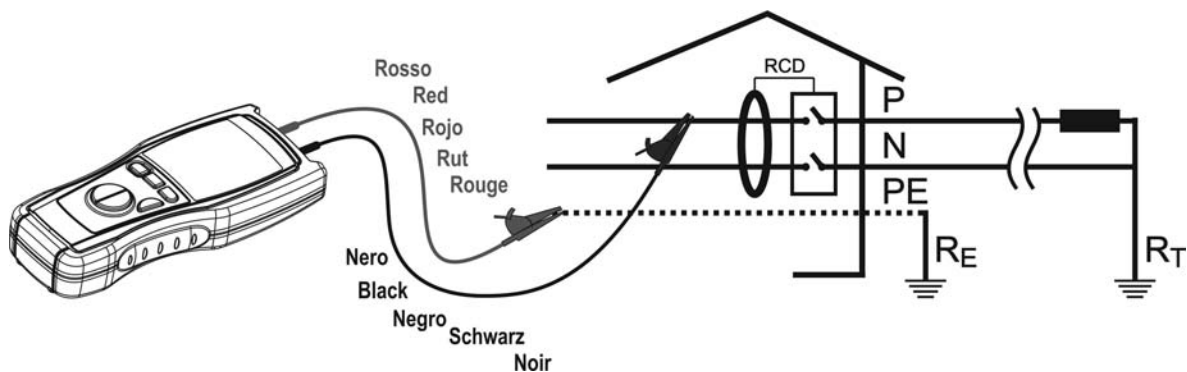

Fig. 8: Connection of the instrument's terminals during MΩ test
6. Connect the instrument's terminals to the end of the conductors on which the insulation test must be performed (see Fig. 8)